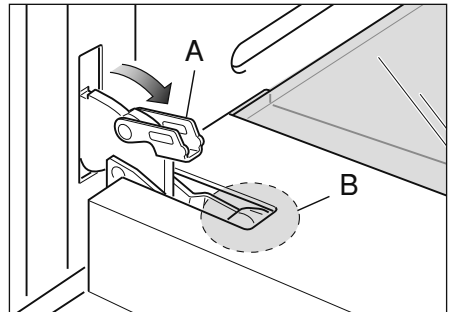

Fig.39b
- Open the lever "A" completely on the left and right hinges (Fig. 39b).